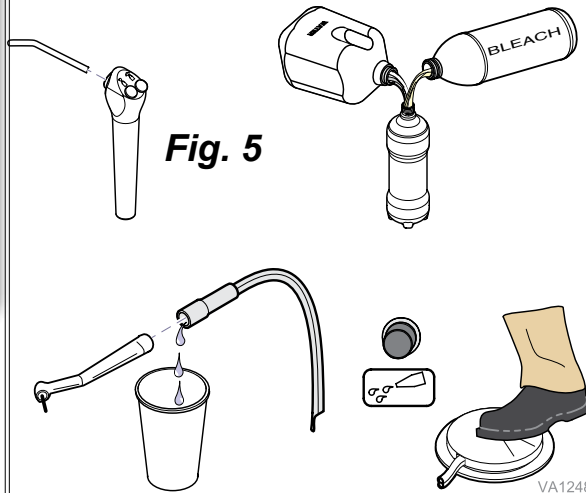

Fig. 5
E. Bleach Flush System. (Fig.5)
Note: When performing "Bleach Flush System" procedure at the end of the day refer to Fig. 5.